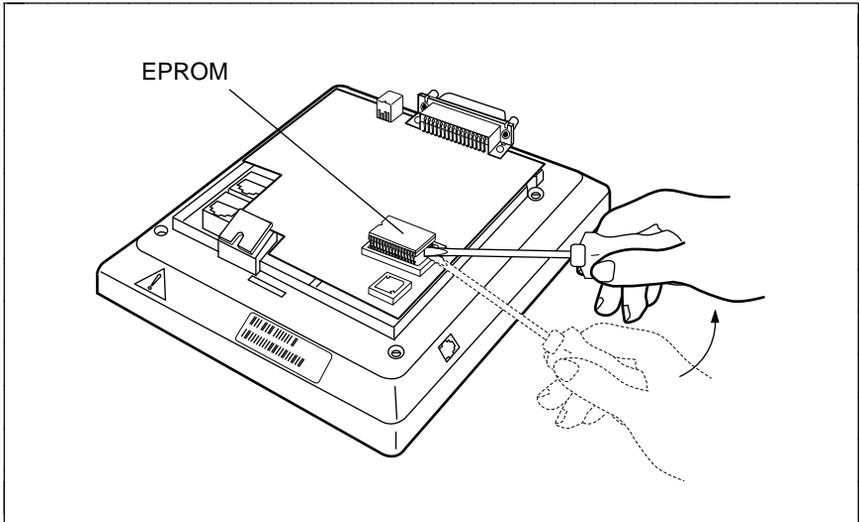

FIGURE 3 Lifting the Old EPROM From the Socket (if necessary)
- 1 If you are upgrading the software of your current terminal, and therefore replacing the EPROM, slowly remove the old EPROM with a screwdriver. Slide the screwdriver under the EPROM, as shown in **Figure 3**, and slowly and gently lift up on the EPROM until the EPROM works free.
NOTE: **Figure 3** shows a TMI board; however, the location of the EPROM is the same on both the ADB and the TMI boards.